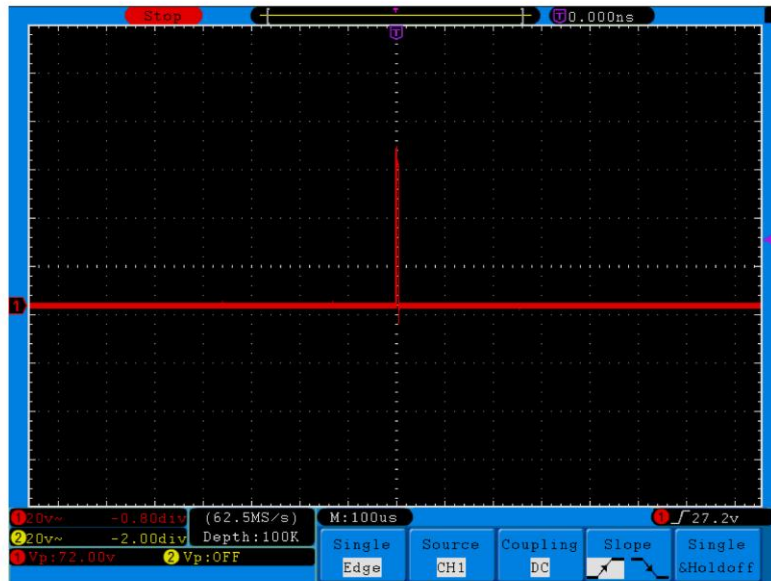

Fig. 80 Capture the Single Signal
15. If the **Trigger State Indicator** at the top of the screen does not indicate **Ready**, push down the **Run/Stop** button and start acquiring, waiting the emergence of the signal in conformity with the trigger conditions. If a signal reaches to the set trigger level, one sampling will be made and then displayed in the screen. With this function, any random occurrence can be captured easily. Taking the burst burr of larger amplitude for example, set the trigger level to the value just greater than the normal signal level, and then presses the **Run/Stop** button and waits. When there is a burr occurring, the instrument will trigger automatically and record the waveform generated during the period around the trigger time. With the **HORIZONTAL POSITION** knob in the horizontal control area in the panel rotated, you can change the horizontal position of the trigger position to obtain the negative delay, making an easy observation of the waveform before the burr occurs (see **Fig. 80**).